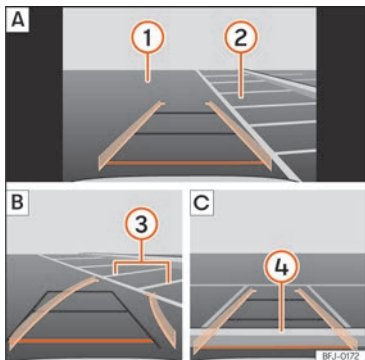

Fig. 205 Display on the Infotainment system screen.: parking with reverse assist.
Key to the **Fig. 205**:
- Place the vehicle in front of the parking space **»»» Fig. 205 (2) [A]**.